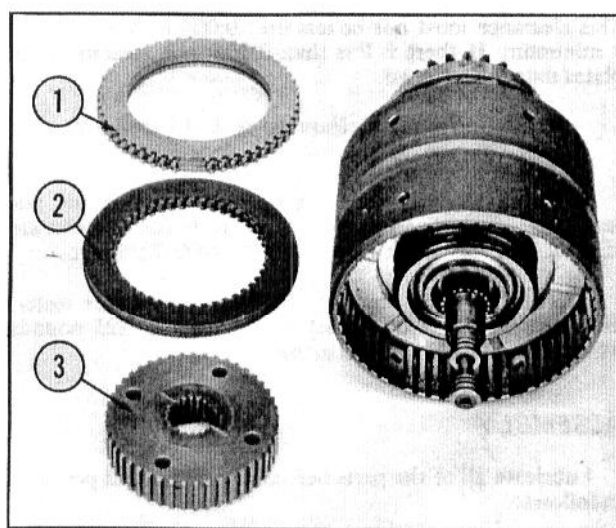

Fig. 36 — Clutch Pack Cylinder Assembly Components
2. Grasp the input clutch hub and slide it out of the clutch plates and discs. Invert the entire clutch assembly and allow the clutch plates and discs to fall out into your hand. See Fig. 36.